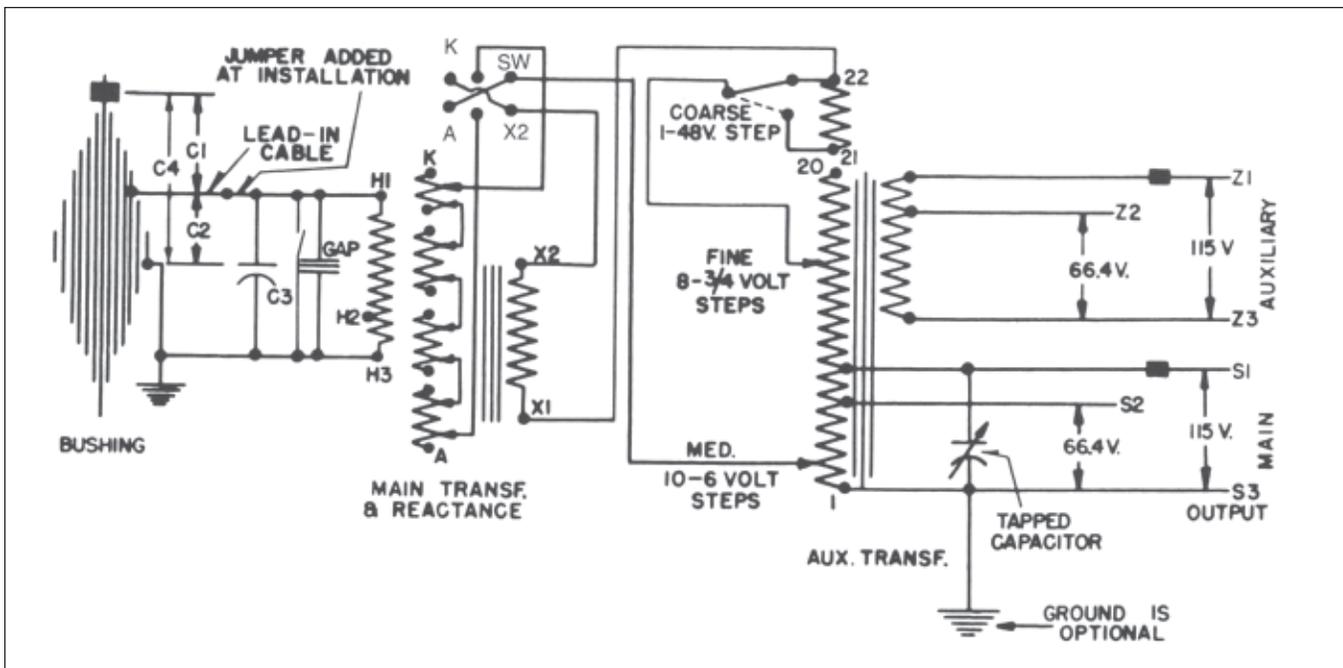

Figure 6: Schematic Diagram
The device network (see Fig. 6) consists of a main transformer having adjustable reactance, an auxiliary transformer of adjustable ratio, a tapped capacitor to correct burden power factor, a protective spark gap, and a dead-front adjusting panel.
- i.** Connect the internal jumper connection in line with diagram of Fig. 6 by opening the PBA'S door and partially dropping the front panel assembly.
If the capacitance values C1, C2 and C3 of Fig. 6 are known, then it is possible to calculate the approximate adjustment of a device when used with a particular bushing at a specific line voltage. It is assumed that the burden is corrected to substantially unit power factor. For this purpose the nominal values of C3 (in the potential device) are,